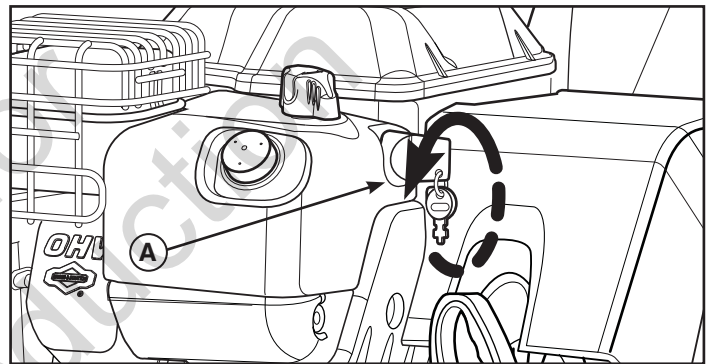

Figure 7
1. Turn the ON/OFF or Push/Pull key (A, Figure 7) to the OFF position and remove or pullout the Push/Pull key if equipped.